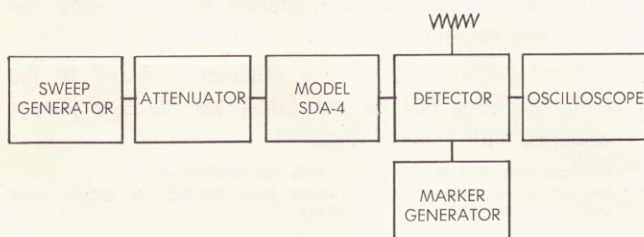

Fig. 1—Test set up for Frequency Response Check
1. Set up test equipment (see Fig. 1).